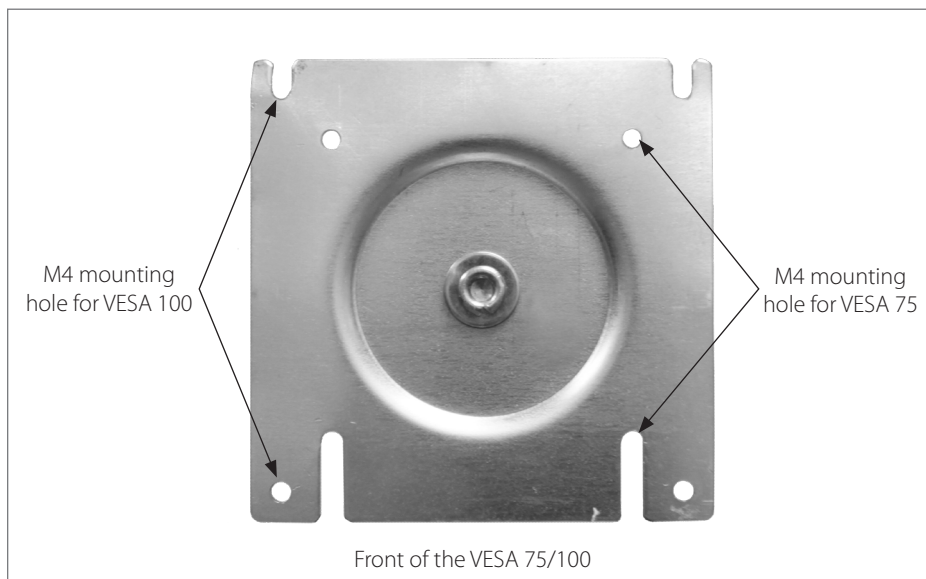

Figure 1
2. VESA 100 configuration: Partially thread two screws into the top 2 holes in the back of the display. The display can then be hung up on the VESA Head through the two slots at the top. Insert 2 more screws through the VESA 100 mounting holes at the bottom and tighten all screws (**Figure 1**).